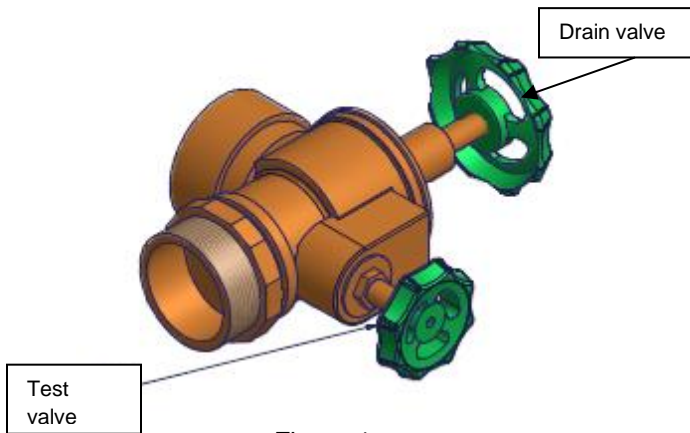

Figure 1
To check that the supply line allows the unobstructed supply of water, close the alarm control valve and slowly open the drain valve (Fig. 1). Once the test is complete, close the drain valve and open the alarm control valve. The alarm control valve must be supervised and secured according to the respective regulations.
- Open the drain valve (Fig. 1) to remove all loose particles from the valve seat. Close the drain valve and check whether the water flow has stopped.
- c. Following repair work, close the drain valve (Fig. 1) and slowly open the main control valve and monitor the system accordingly.